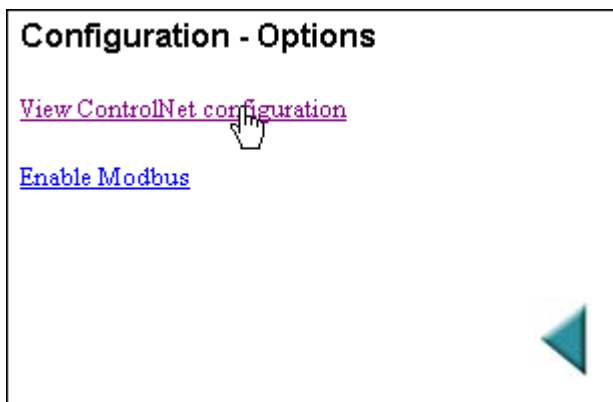

FIG. 59: OPTIONS PAGE/SELECTING VIEW CONTROLNET CONFIGURATION
Step 2. Click on Options. The Options page appears. (See Fig. 59)